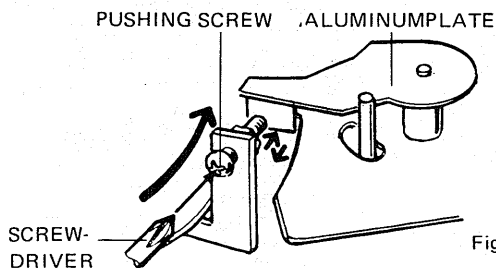

Fig. 11
- See Fig. 11. Adjust pushing screw so that it touches the aluminum plate when the stylus is 65mm from the record center.